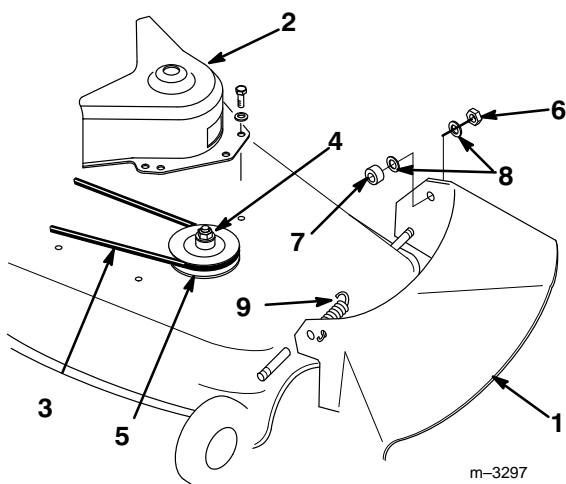

Figure 3
1. Remove the discharge chute from the mower (Fig. 3).
2. Remove belt cover from right side (Fig. 3).